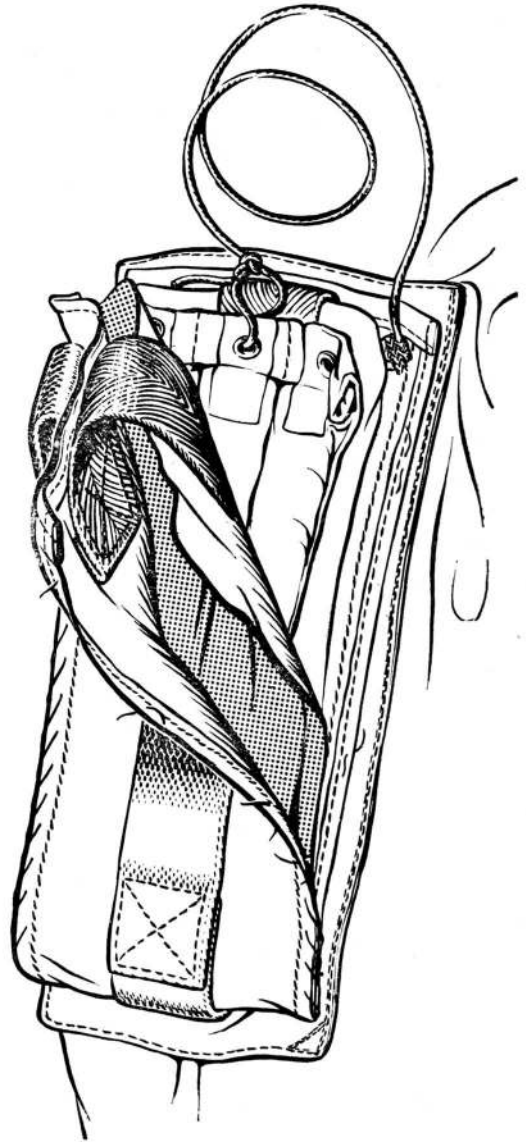

Fig. 5. Fluorescein sea marker
11. The fluorescine sea marker is supplied in a rubber pack, which is fitted in a rip-off pocket on the right-hand side of the stole cover. Tapes at the top of the rubber pack are sewn to the pocket so that when the pocket is pulled open the pack is also pulled open and an inner pack containing the chemical is released (*fig. 5*). The inner pack is attached to the life jacket by a cord. Shark repellent (if provided) is fitted in a pocket similar to that containing the sea marker.